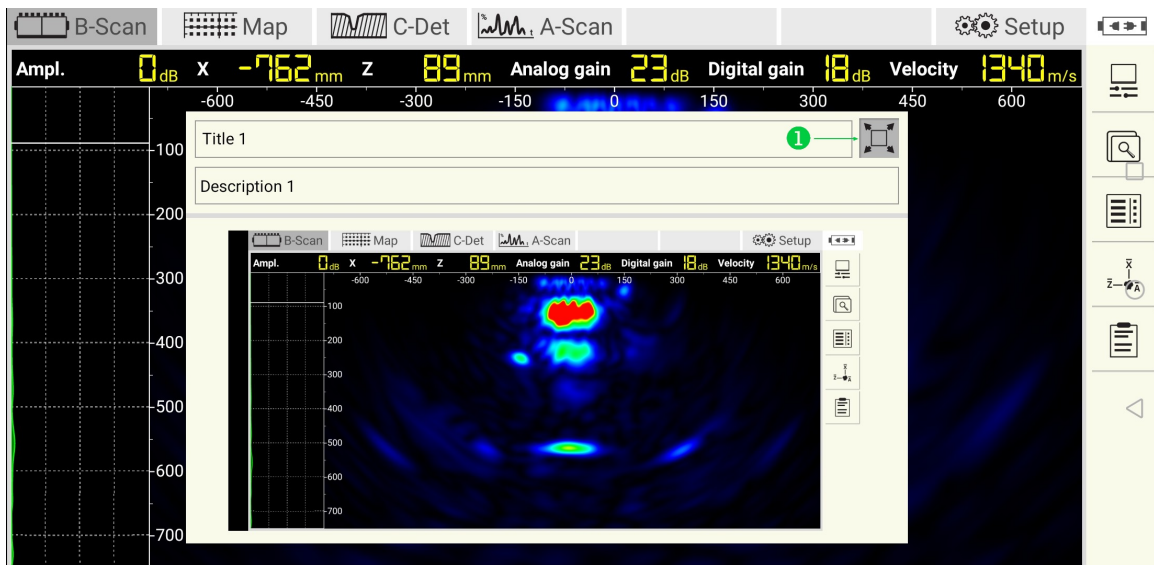

Figure 17: Screenshot zooming
After pressing the zoom  button The fields title and description become uneditable, Figure 17. Use the unzooming tool ❶ to switch to the previous view.